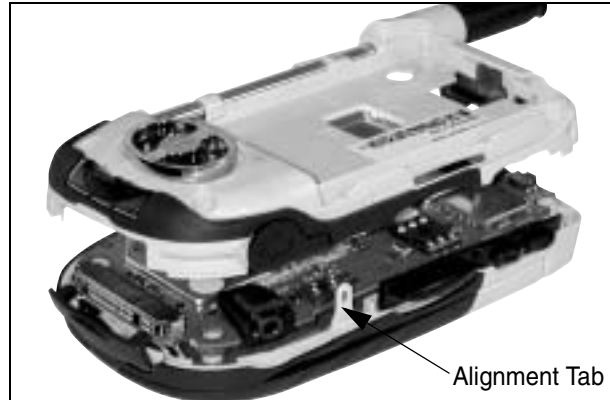

Figure 7-17.
1. Align Back Housing on top of Front Housing assembly. Ensure that PTT, Audio Jack Seal, and Smart/Mute keypads remain aligned (see Figure 7-17).